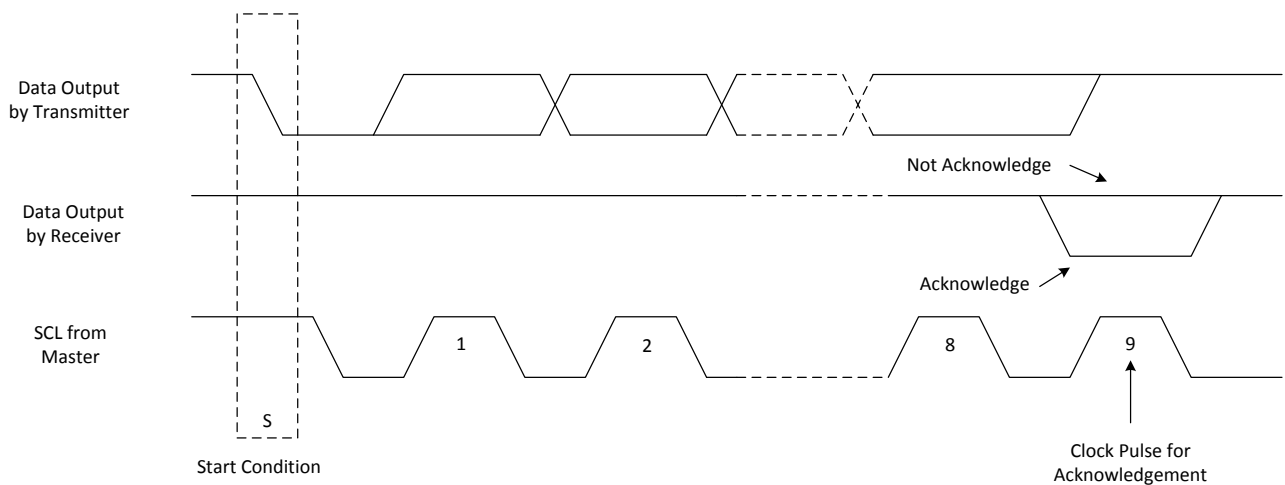

Figure 5. Acknowledge and Not Acknowledge on the I²C Bus
Other than specific timing signals, the I²C™ interface works with serial bytes. At the end of each byte, a ninth clock cycle generates and detects an acknowledge signal. Acknowledge is when the SDA line is pulled low during the high period of the ninth clock cycle. A not-acknowledge is when the SDA line is left high during the high period of the ninth clock cycle as shown in Figure 5.
2. The master then generates the SCL pulses, and transmits the 7-bit address and the read/write direction bit (R/W) on the SDA line. During all transmissions, the master ensures that data is valid. A valid data condition requires the SDA line to be stable during the entire high period of the clock pulse, as shown in Figure 7. All devices recognize the address sent by the master and compare it to their internal fixed addresses. Only the slave device with a matching address generates an acknowledge by pulling the SDA line low during the entire high period of the 9th SCL cycle, as shown in Figure 5 by pulling the SDA line low during the entire high period of the 9th SCL cycle. Upon detecting this acknowledge, the master knows the communication link with a slave has been established.